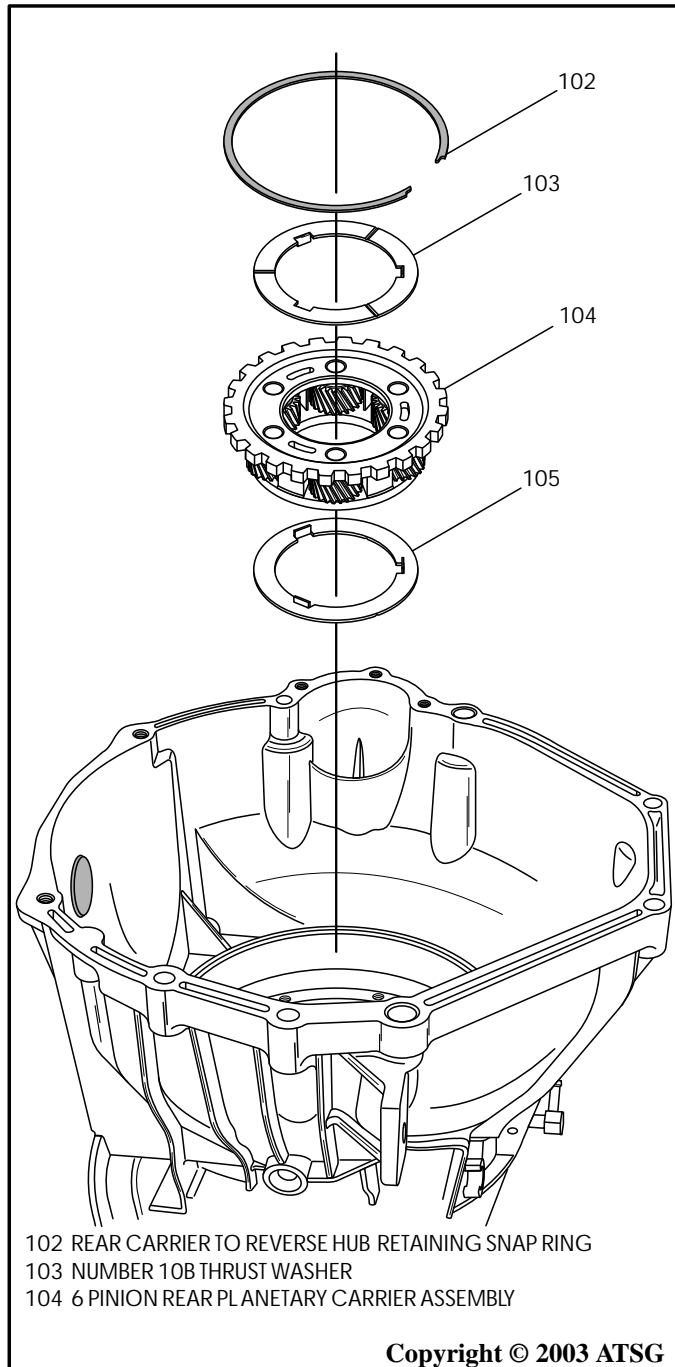

Figure 174
1. Rotate the pre-assembled case assembly in the fixture so bell housing is facing up, as shown in Figure 174.
2. Install the pre-assembled rear planetary carrier with the washers secured with Trans-Jel® into the reverse hub, as shown in Figure 174, and rotate into position.
3. Install the rear carrier retaining snap ring, into the reverse clutch hub, as shown in Figure 174, and ensure it is fully seated.